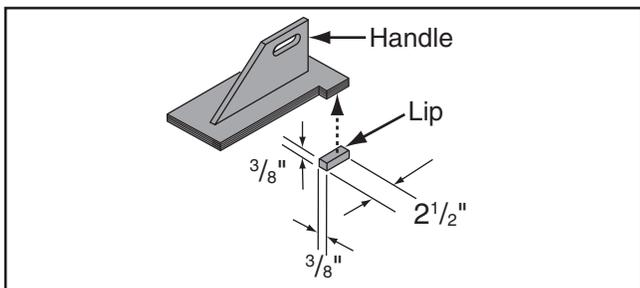

Figure 128. Push block and lip.
- Pre-drill and countersink three holes through the bottom center of the base, then attach the handle to the base with #6 x 1/4" wood screws (see **Figure 128**).
- Make a lip from scrap wood that is approximately 2 1/2 x 3/8 x 3/8", then fasten this piece to the bottom of the base, as shown in **Figure 128**.